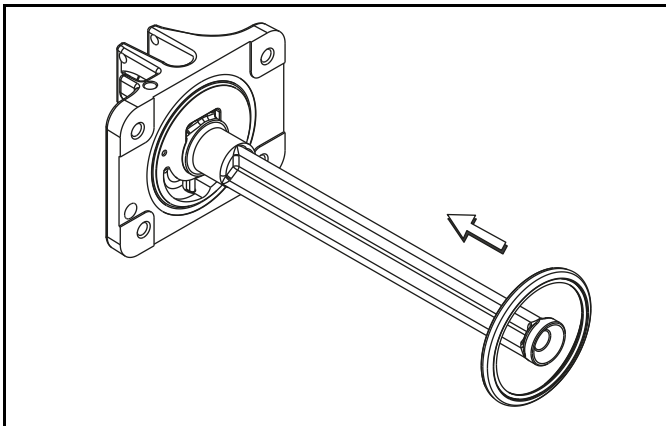

Figure 6-8
2. Install baffle by raising round end while engaging lug into door pocket. Lower round end to secure to door. Place the door gasket into the groove on the back of the freezer door. **Do not** lubricate the gasket or bearing. (See Figure 6-8.)